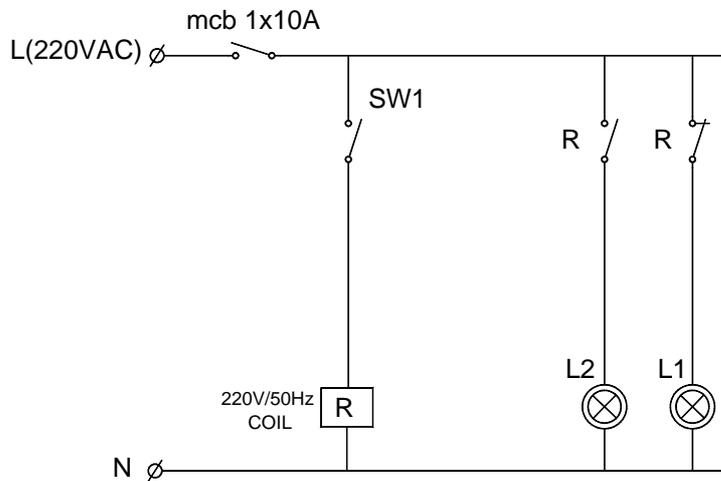

Fig. 1.2 Energizing and de-energizing relay using on-off switch
1. Assemble the components of the circuit shown in figure 1.2 on the control board and make the required wiring and connections.